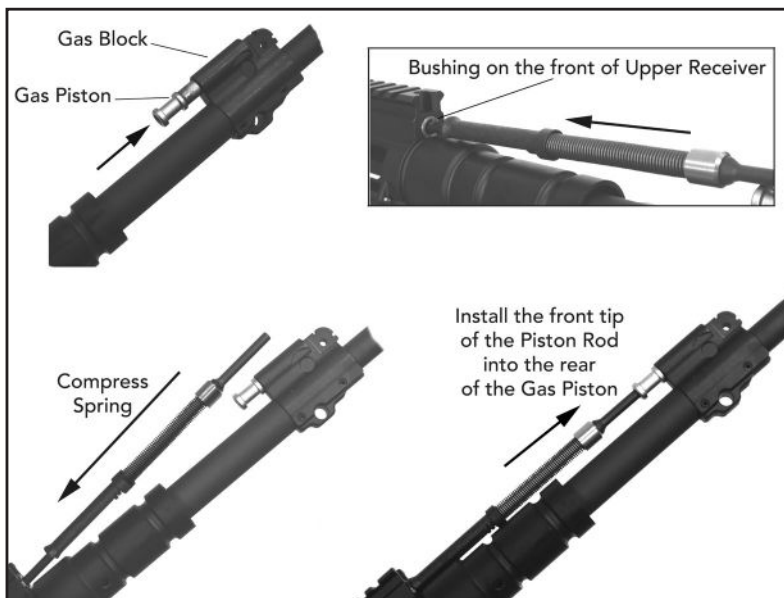

Fig. 56 – Reinstalling the Gas Piston and the Piston Rod
- a. Install the gas piston into the back of the gas block. The piston rings need not be staggered prior to installation (Fig. 56).